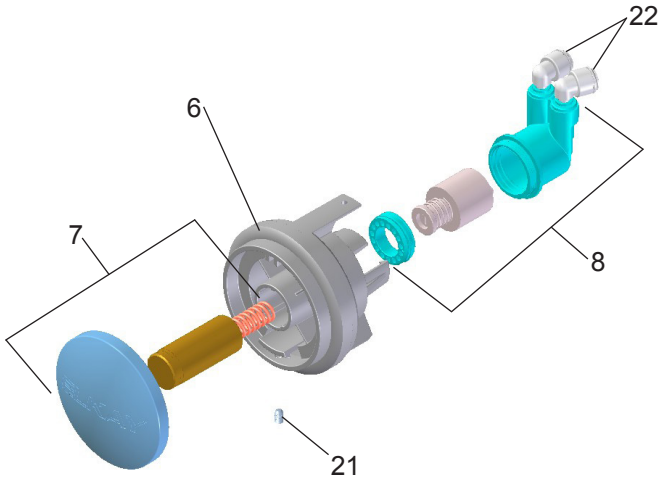

Figure 8 - Push Button Assembly
14. **Check** stream height from bubbler. Stream height is factory set for 35 PSI supply. If supply pressure varies greatly from this, remove push button (Item 7 - Figure 8) and adjust the screw on the regulator (Item 8 - Figure 8). To remove push button, remove setscrew from bottom of sleeve (Item 21). Insert a small punch in screw hole and push up while grasping the push button and pull forward removing the push button. Clock wise adjustment will raise stream height and counterclockwise movement will lower stream height. For best adjustment stream should hit basin approximately 6-1/2" from the bubbler. Reassemble the push button by pushing in on button until the push button catches in the sleeve. Reinstall the setscrew (Item 21) in the sleeve (Item 6).